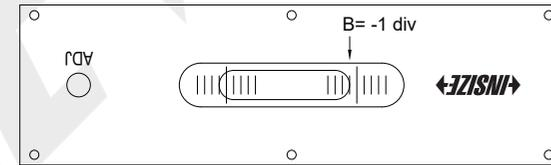

Fig.4
- d) After the bubble stops moving, read B on the scale (Fig.4).